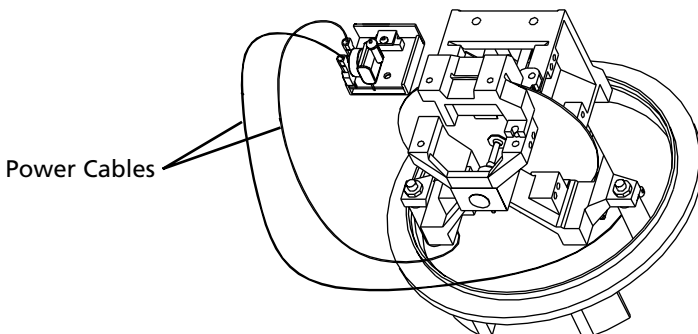

Figure 5. Attaching Power Cable to WOPI
| Figure 5. Attaching Power Cable to WOPI | 5 |
- 6. Attach power cables to the WOPI. See Figure 5.